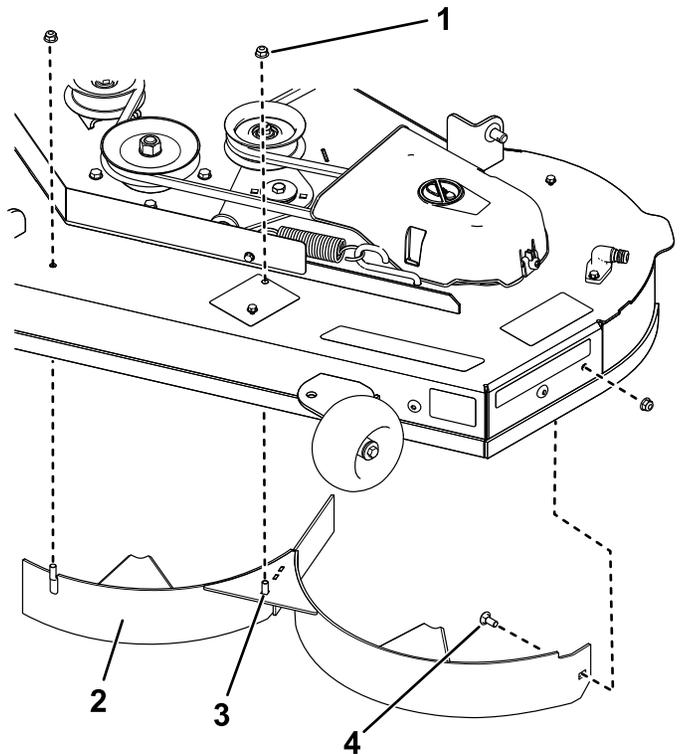

Figure 14
7. Remove the 2 locknuts (5/16 inch) from the welded posts of the left baffle (Figure 14).
1. Locknut—5/16 inch (3)
3. Welded post (2)
8. Remove the carriage bolt and locknut securing the left baffle to the deck and remove the baffle (Figure 14).
9. Locate the 2 bolts in loose parts and use the existing locknuts and install these fasteners into the holes shown in Figure 14 on the mower deck to prevent flying debris.